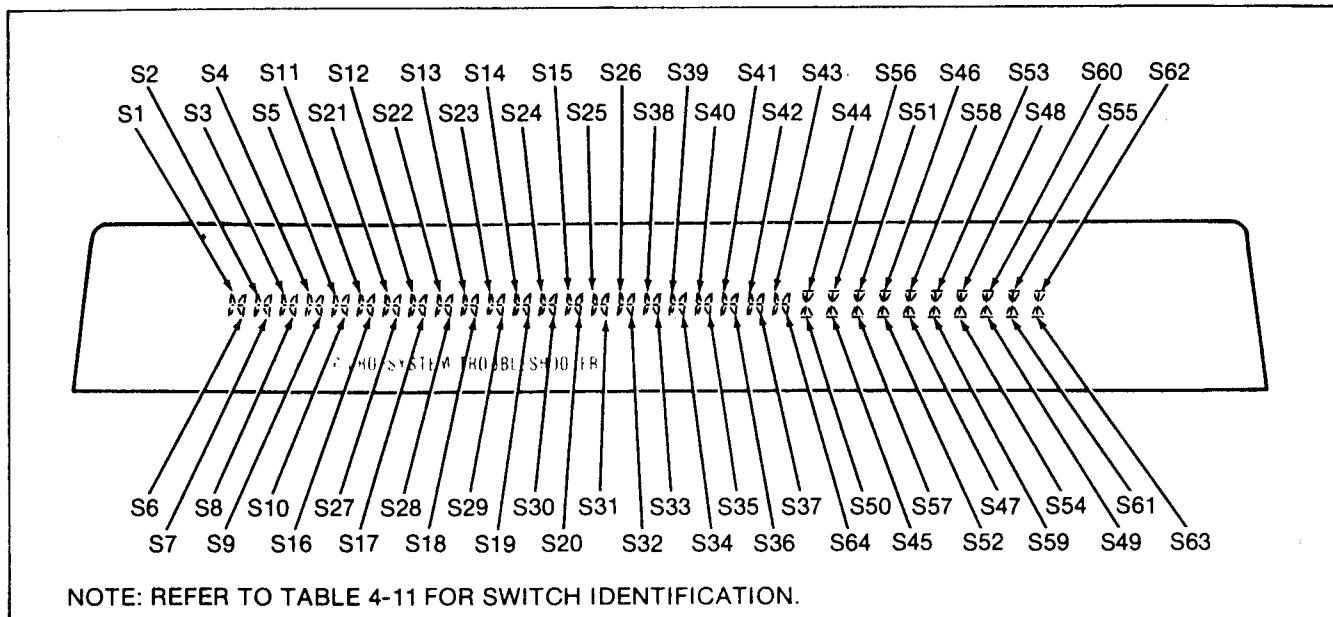

Figure 4-9. Keyboard Test Pattern
4-79. The keyboard test, when initiated, writes the segment pattern shown in Figure 4-9 to the display. Initiate the keyboard test by momentarily jumpering TPS (ground) to TP3 (located on the Display Assembly) or, if the UUT is connected to a tester 9010A, perform WRITE @ 10081 = 00, followed by WRITE @ 10081 = 08. Note the following:
- As each key (except HIGH and LOW) is pressed, the corresponding portion of the display goes out. Pressing all keys results in a blank display. Refer to Figure 4-9 and Table 4-11 for key/switch identification.